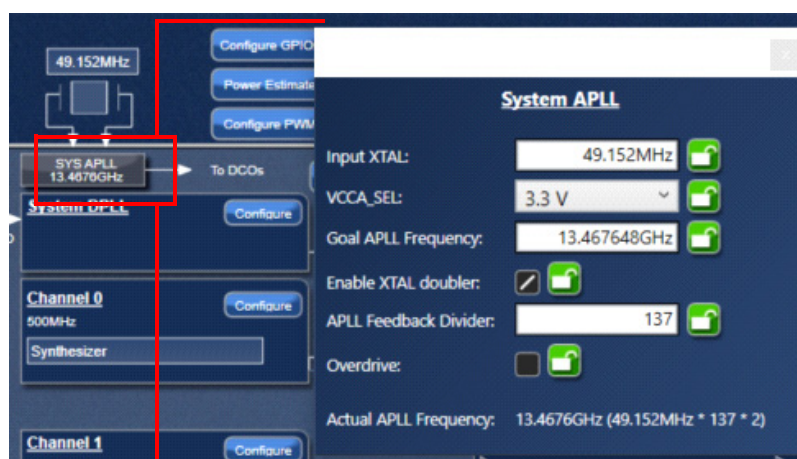

Figure 13. System APLL Window
- System APLL is an integer-N APLL (see Figure 13)